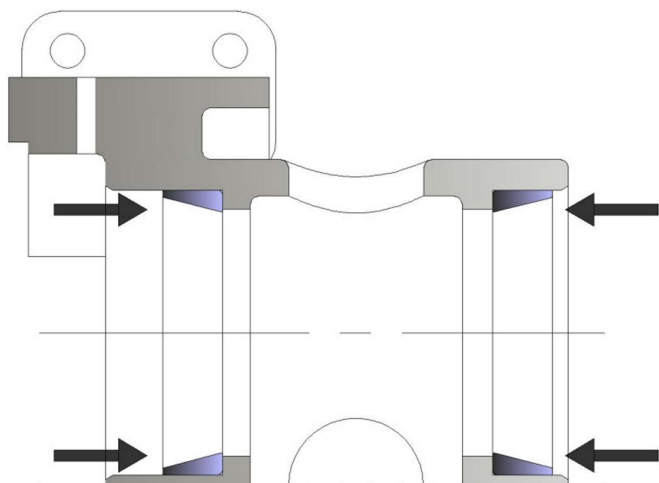

Figure 35 - Outer-ring fitment
- Press both front (5) and rear (4) outer races into the bearing housing, (Figure 35) making sure they are square and pressed tight against the bearing housing shoulder.